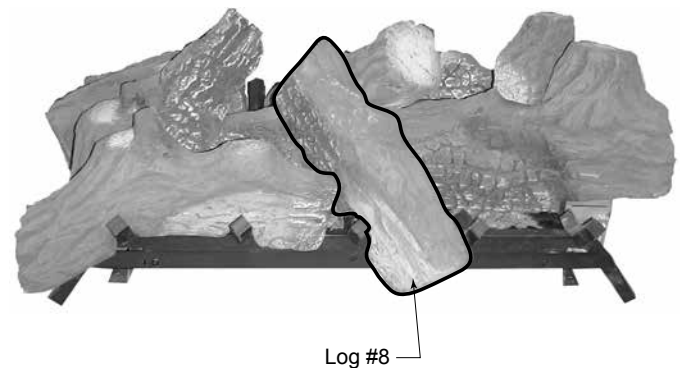

Figure 5.8 - Place Log #8
8. Place log #8 by aligning 'V' notch in bottom of log with the horizontal grate bar between tines as shown in *Figure 24*. Place the rectangular notch on bottom of log onto rectangular protrusion on middle of log #1. *Figure 5.8*